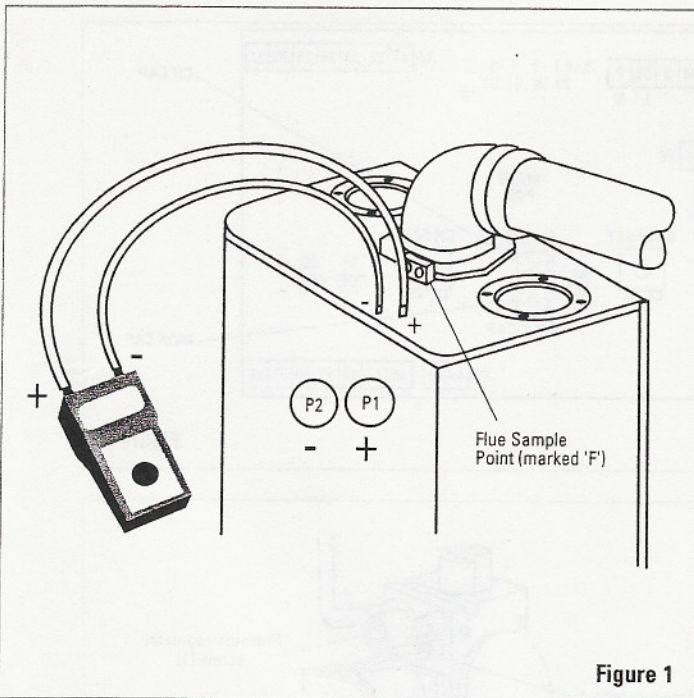

Figure 1
- Remove the screws from the pressure test points P1 and P2 and connect a differential pressure gauge to the test points as shown in Fig. 1. Remove the screw plug and place the flue gas analyser probe into the flue sampling point (marked 'F' on the boiler).